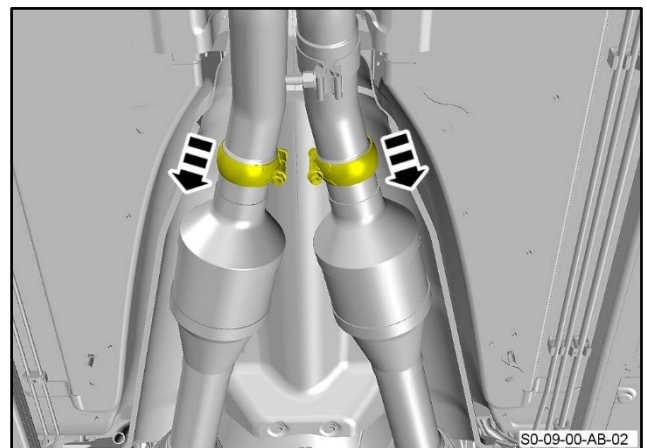

Figure 7
13. Move the two clamps on the catalytic converter and pipe assemblies away from the centre exhaust pipe (refer to Figure 7).